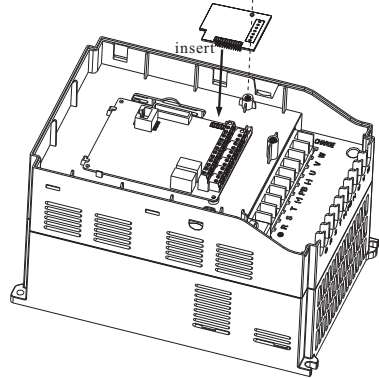

Figure 1 Install of PG extension card
- ①: make sure the AC drive is power off completely.
- ②: insert PG card and extension card of inverter.
- ③: fix by screw as Figure 1
2 ) The appearance, terminal block and function description are shown in figure 1, figure 2 and table 1.